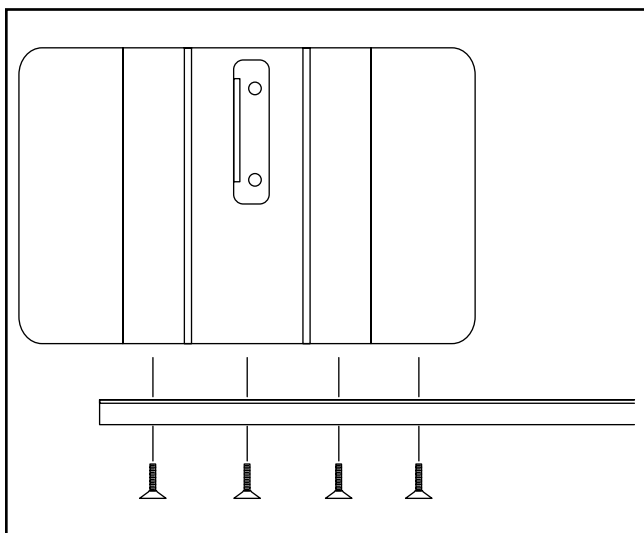

Figure 10. Front rail attachment procedure.
3. Attach the front rail to the table top using the hex socket flathead screws as shown in **Figure 10**. Place an adjustable square on the edge of the table, and adjust the rail so it is consistently $25/32$ " below the top of the table.